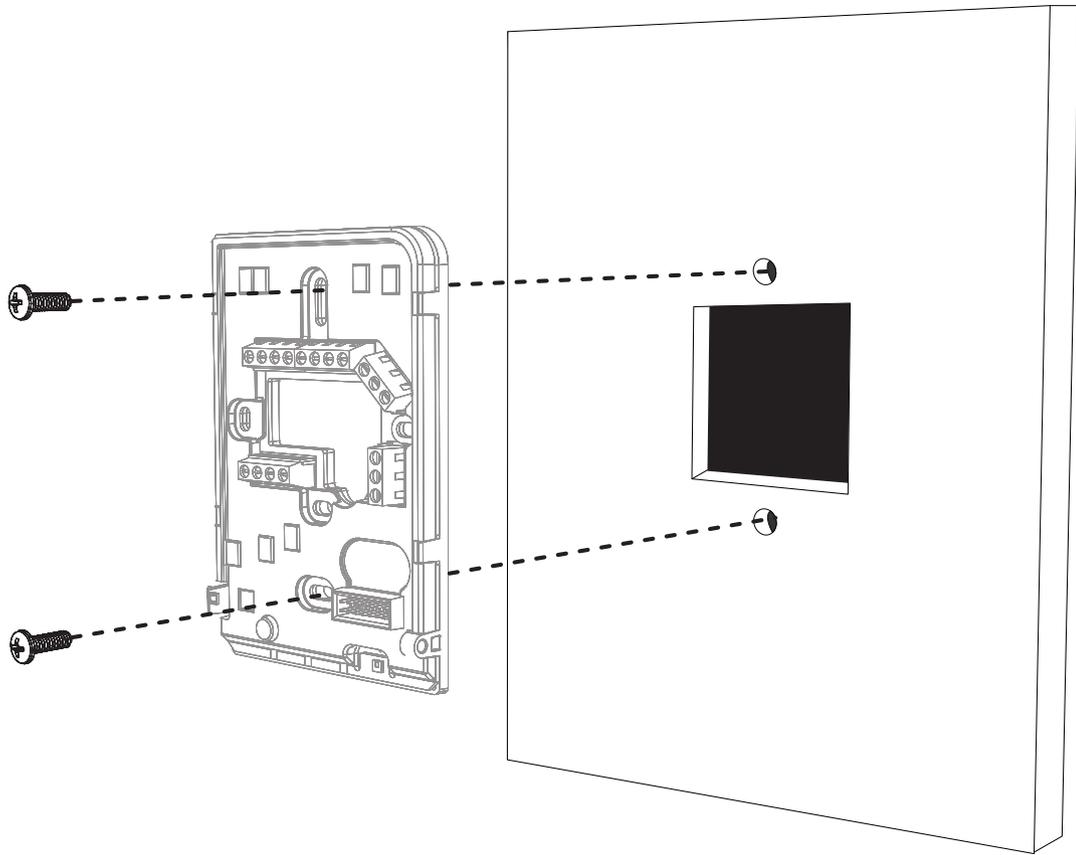

Figure 3: ECY-STAT back plate screw positions
- Using an appropriately sized tool, press in the release tab on the side of the device and pull the front cover out from the bottom. See Figure 3 for security screw and release tab locations.